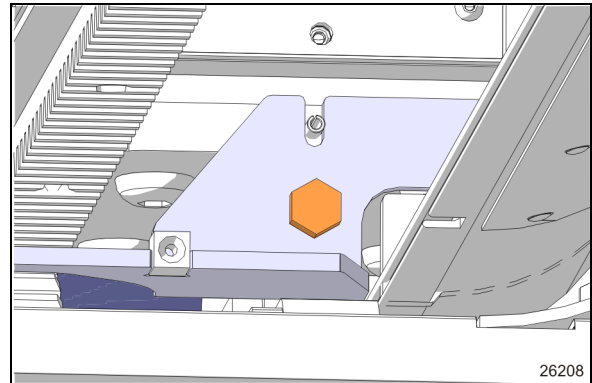

FIGURE 17: FLEX COVER ANCHOR PLATE
7. Remove the flexible cover anchor plate to provide clearance moving in. (Figure 17).